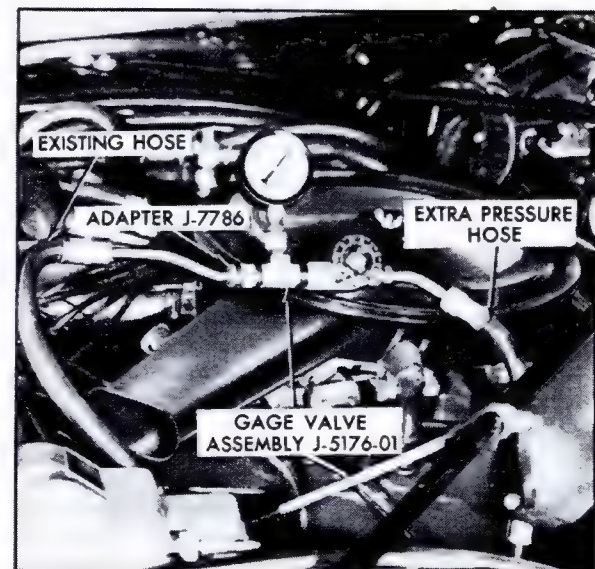

Fig. 9-7 Checking Pump Pressure
2. Connect pressure hose to Adapter, J-7786, on Gage Valve Assembly, J-5176-01, Fig. 9-7.